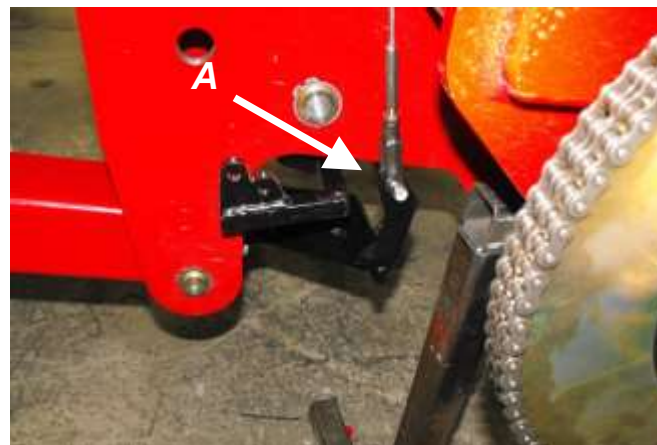

Figure 12A
1. When the applicator is in corn configuration, you have to make sure that the clutch cable is attach to the front toolbar [Figure 12A, **A**].